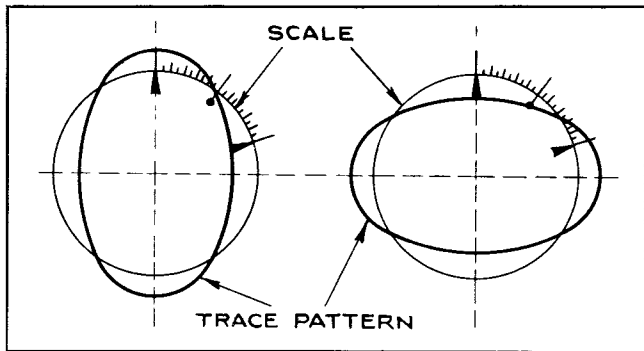

Figure 5-3. Indicator I-152-A — Circle Shape
(1) Before making any adjustment to the circle forming transformer, rotate the "BRIL." control R205 clockwise until a pattern appears on the face of the cathode-ray indicator V205.
(2) Rotate the "FOCUS" control R207 either clockwise or counterclockwise until the focus of the pattern on the tube face is at its sharpest.
(3) Adjust both "HORIZ." and "VERT. CENT." controls R222 and R225 alternately until the pattern, usually an ellipse, is approximately symmetrical with respect to the calibrated scale. (See fig. 5-3.)